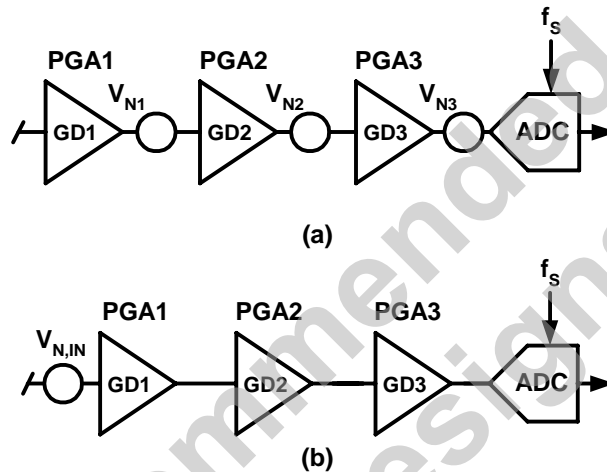
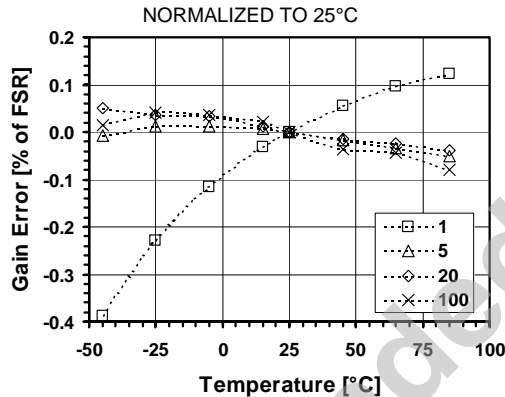

Figure 16-18. (a) Simple noise model for PGAs and ADC and (b) total input referred noise
Figure 16-19. Gain error vs. temperature for different PGA gains
- (1) Gain defined as overall PGA gain $GD_{TOT} = GD_1 \cdot GD_2 \cdot GD_3$. Maximum input voltage is given by: $V_{IN,MAX} = \pm(V_{REF}/2) \cdot (OSR/OSR+1)$.
- (2) Offset due to tolerance on $GDOFF_2$ or $GDOFF_3$ setting. For small intrinsic offset, use only ADC and PGA1.
- (3) Measured with block connected to inputs through AMUX block. Normalized input sampling frequency for input impedance is $f_S = 512kHz$. This figure must be multiplied by 2 for $f_S = 256kHz$, 4 for $f_S = 128kHz$. Input impedance is proportional to $1/f_S$.
- (4) Figure independent from PGA1 gain and sampling frequency f_S . See model of Figure 16-18(a). See equation Eq. 21 to calculate equivalent input noise.
- (5) Figure independent on PGA2 gain and sampling frequency f_S . See model of Figure 16-18(a). See equation Eq. 21 to calculate equivalent input noise.
- (6) Figure independent on PGA3 gain and sampling frequency f_S . See model of Figure 16-18(a) and equation Eq. 21 to calculate equivalent input noise.
- (7) Resolution is given by $n = 2 \cdot \log_2(OSR) + \log_2(N_{ELCONV})$. OSR can be set between 8 and 1024, in powers of 2. N_{ELCONV} can be set to 1, 2, 4 or 8.
- (8) If a ramp signal is applied to the input, all digital codes appear in the resulting ADC output data.
- (9) Gain error is defined as the amount of deviation between the ideal (theoretical) transfer function and the measured transfer function (with the offset error removed). (See Figure 16-19)
- (10) Offset error is defined as the output code error for a zero volt input (ideally, output code = 0). For ± 1 LSB offset, N_{ELCONV} must be ≥ 2 .
- (11) INL defined as the deviation of the DC transfer curve of each individual code from the best-fit straight line. This specification holds over the full scale.
- (12) DNL is defined as the difference (in LSB) between the ideal (1 LSB) and measured code transitions for successive codes.
- (13) Figures for Gains = 1 to 100. PSRR is defined as the amount of change in the ADC output value as the power supply voltage changes.
- (14) Conversion time is given by: $T_{CONV} = (N_{ELCONV} \cdot (OSR + 1) + 1) / f_S$. OSR can be set between 8 and 1024, in powers of 2. N_{ELCONV} can be set to 1, 2, 4 or 8.
- (15) PGAs are reset after each writing operation to registers **RegAcCfg1-5**. The ADC must be started after a PGA or inputs common-mode stabilisation delay. This is done by writing bit $Start$ several cycles after PGA settings modification or channel switching. Delay between PGA start or input channel switching and ADC start should be equivalent to OSR (between 8 and 1024) number of cycles. This delay does not apply to conversions made without the PGAs.
- (16) Nominal (maximum) bias currents in PGAs and ADC, i.e. $IB_AMP_PGA[1:0] = '11'$ and $IB_AMP_ADC[1:0] = '11'$.
- (17) Bias currents in PGAs and ADC set to 3/4 of nominal values, i.e. $IB_AMP_PGA[1:0] = '10'$, $IB_AMP_ADC[1:0] = '10'$.
- (18) Bias currents in PGAs and ADC set to 1/2 of nominal values, i.e. $IB_AMP_PGA[1:0] = '01'$, $IB_AMP_ADC[1:0] = '01'$.
- (19) Bias currents in PGAs and ADC set to 1/4 of nominal values, i.e. $IB_AMP_PGA[1:0] = '00'$, $IB_AMP_ADC[1:0] = '00'$.
The simple noise model of Figure 16-18(a) is used to estimate the equivalent input referred rms noise $V_{N,IN}$ of the acquisition chain in the model of Figure 16-18(b). This is given by the relationship:
Note: see noise model of Figure 16-18 and equation Eq. 21.
Figure 16-19 shows gain error drift vs. temperature for different PGA gains. The curves are expressed in % of Full-Scale Range (FSR) normalized to 25°C.